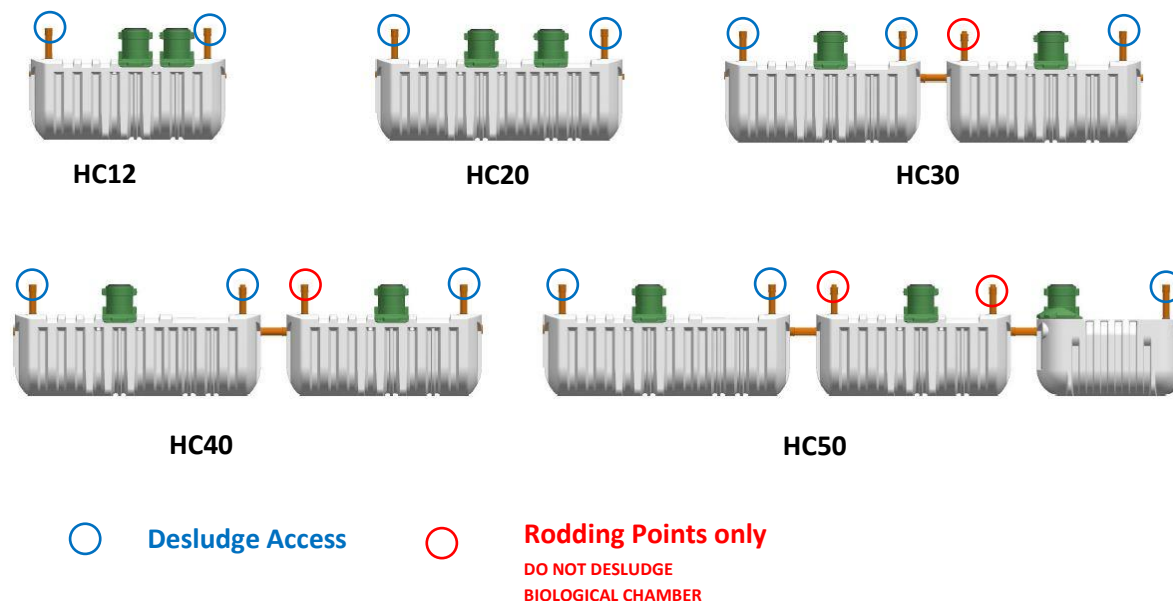

Figure 17: Desludge and Rodding Access points on HydroClear range
Please refer to Figure 17 below for the location of the desludge points. Harlequin recommends that during all desludge operations, the primary and final settlement chambers should both be emptied but it is possible to reduce the frequency of emptying the FST based on sludge levels. The primary settlement chamber should always be emptied first to avoid excess transfer of solids through the aeration chamber.
9. Please ensure that the Biological reactors are not desludged. Do NOT desludge through the Rodding Access points circled in red in Figure 17